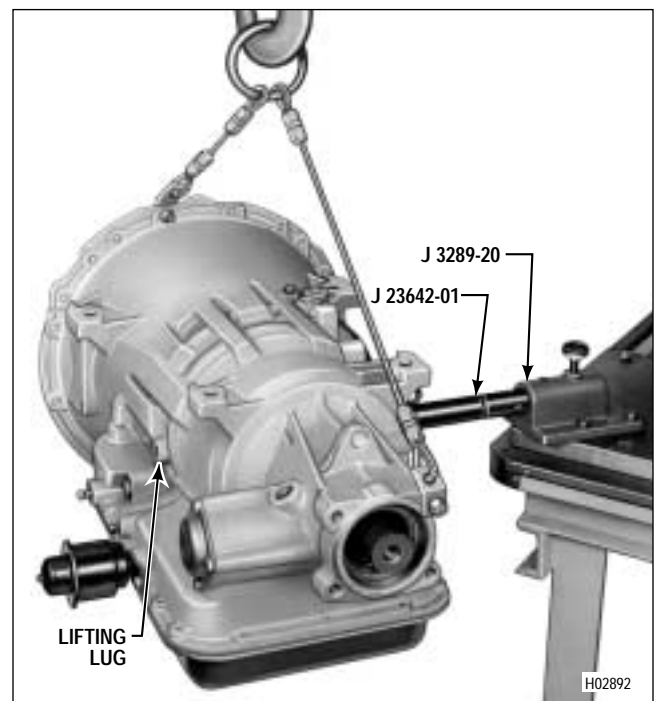

Figure 5-1. Transmission in Holding Fixture
(4) Remove gasket 16, separator plate 17, and a second gasket 16.
(5) Refer to Paragraph 6-7 for rebuild of the retarder control valve body assembly. Refer to Paragraph 6-8 for rebuild of the transfer plate assembly. Skip Step (6) and proceed with Step (7).
(6) Remove PTO or six bolts 3 (Foldout 12,A), PTO cover 2, and gasket 1.
(7) Mount holding fixture J 23642-01 (Figure 5-1) onto PTO mounting pad.
(8) Install fixture base J 3289-20 onto work table.
(9) Using hoist as shown in Figure 5-1, lift transmission and holding fixture so that holding fixture J 23642-01 can be installed into fixture base J 3289-20. (Or, mount the transmission in a suitable turnover stand.)